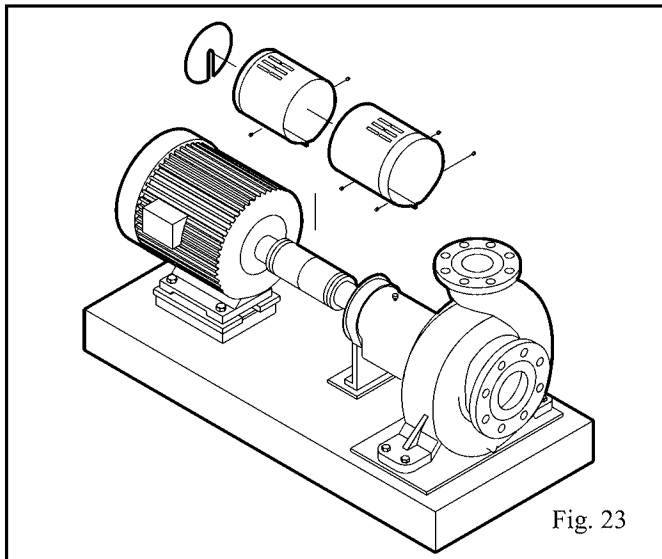

Fig. 23
2. Install coupling guard (Fig. 23). Refer to *Coupling Guard Installation and Disassembly* section Appendix I.